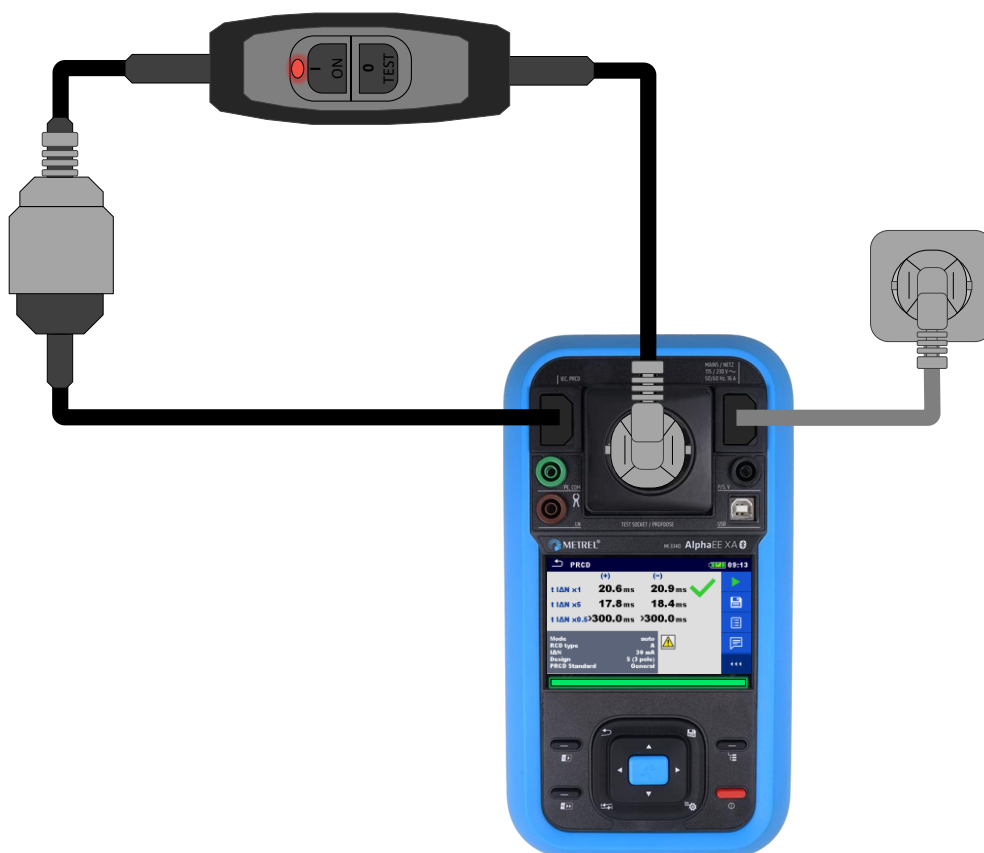

Figure 149_P-RCD_Test method
- Connect the device under test according to the connection diagram Figure 149_P-RCD_Test method.